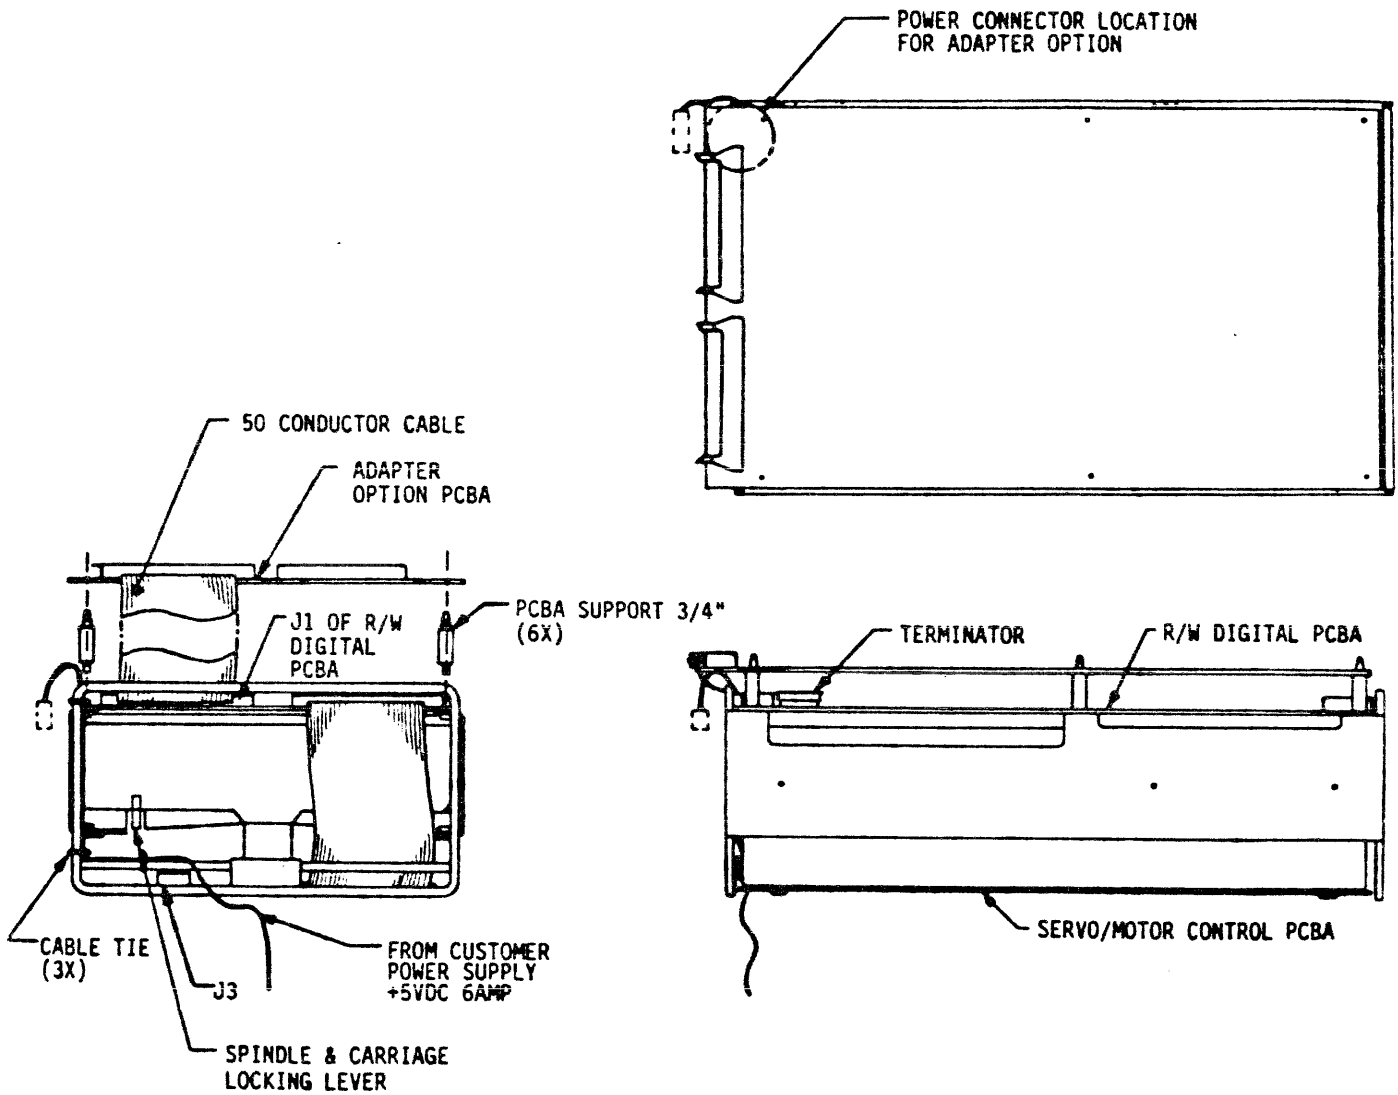

FIGURE 3 - SMART-T INSTALLATION
NOTE: The following explanation will reference Figure 3.
- 12. Mount the SMART-T onto 3/4" PCBA supports. Press firmly until the supports come through mounting holes and lock. Orientation of the SMART-T PCBA should be as shown in Figure 3, with J1 of the SMART-T directly in line with J1 of the RW/DIGITAL PCBA.
- 15. Route and secure the power cable using tie wraps as shown in Figure 3.